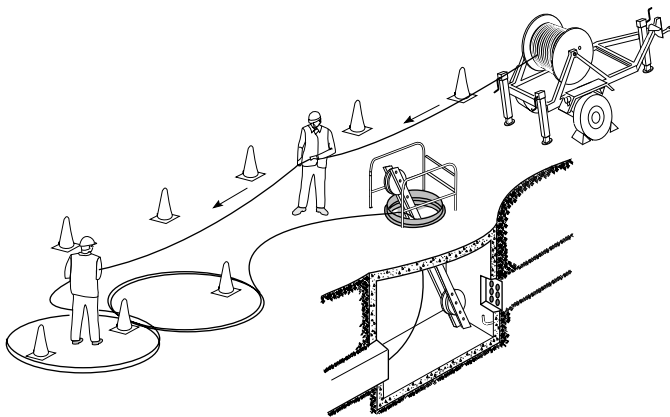

Figure 13 Unreeling cable
5.7 Unreel the remaining cable in a "figure-eight" configuration (Figure 13).